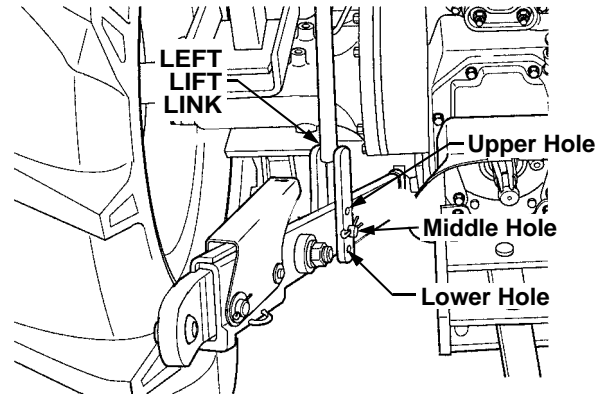

Figure 36
- Following the information provided in the implement owner's manual, attach the left lift rod to the lower link using one of the three holes provided in the lift rod. Remove the internal cotter pin and clevis pin to adjust the left lift rod. See Figure 36.